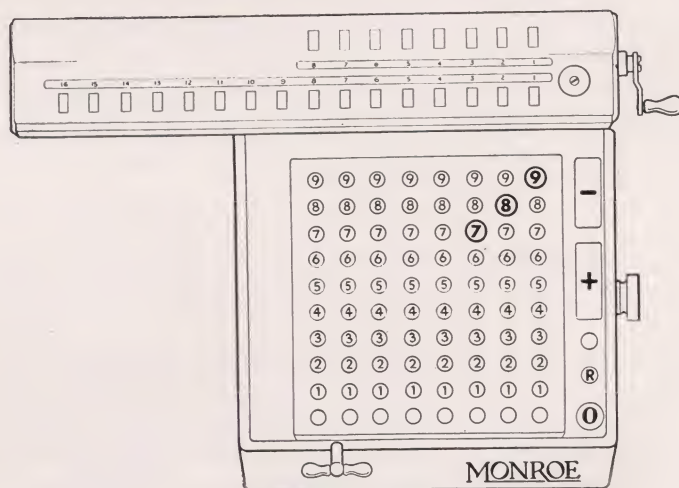

Figure 3
Step 1—With carriage in "1" position set 789 on extreme right of keyboard as shown in Figure 3. Depress plus bar until 4 appears in upper dials.